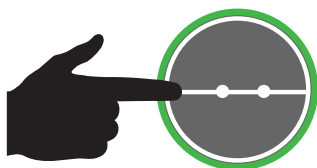

Figure 145. Main Circuit Breaker ON Button
8. Press the **Main Circuit Breaker ON** button (Figure 145).